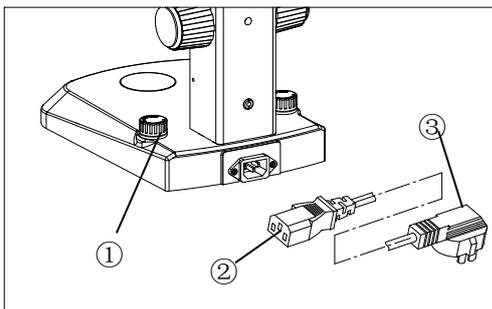

Fig.4
2.2.3 Connecting the power cord (Fig.4)